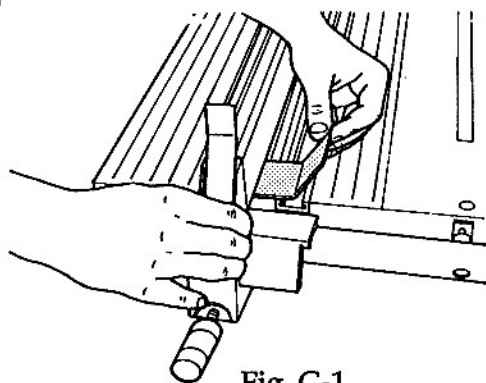

Fig. C-1
2. Insert the fence shim (the angled piece of steel) between the bottom of the fence and the table, as seen in Fig. C-1.